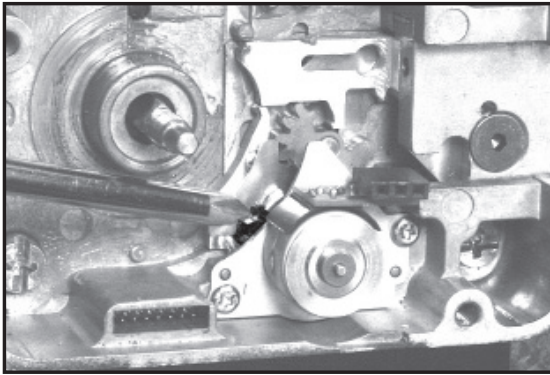

Figure 18 - Wrong Position
**Note:** To avoid unnecessary damage, always make sure that the motor gear is in its proper detent position (see Figures 18 and 19) when inserting the drive cam. If it is not, a pencil may be used to move it to the proper position. This must be done with the lock bolt extended.